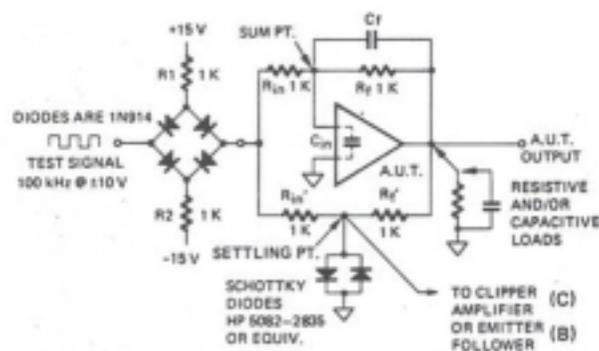

Figure 2. Test Circuit
The test circuit shown in Figure 2 is an excellent method for standard settling
- ① 1025 may be used non-inverting if $CMV < 4$ V p-p (7 V p-p typical).
② Measured at 2 MHz for 1025, 10 MHz for 1027, and 1 MHz for 1030.
③ Circuit of Figure 2, 1 K, 1 K inverter, $C_f = 15$ pF
④ Using supplied settling time trim resistor (2.7 K \pm 130 Ω)
⑤ 1027 Initial Offset is ± 15 mV with external 499 Ω 1% resistor, ± 150 mV if no resistor is used.